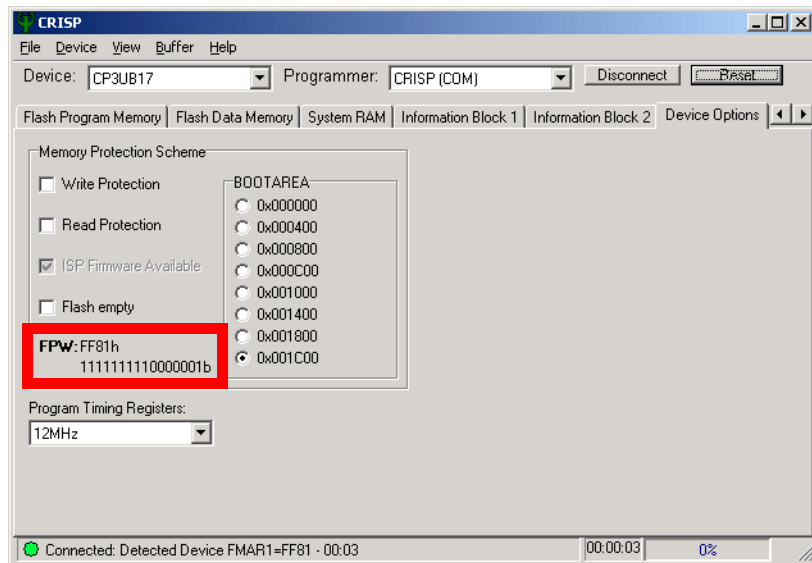

Figure 6-6. Flash Protection Word Value
2. **View Flash Protection Word Value.** The BOOTAREA radio buttons, and Write Protection, Read Protection, ISP Firmware Available, and Flash empty check boxes are used to display and change the Flash Protection Word programming. The value which will be programmed into the Flash Protection Word is indicated at the bottom left hand corner of the Memory Protection Scheme area in both binary and hexadecimal, as shown in Figure 6-6.